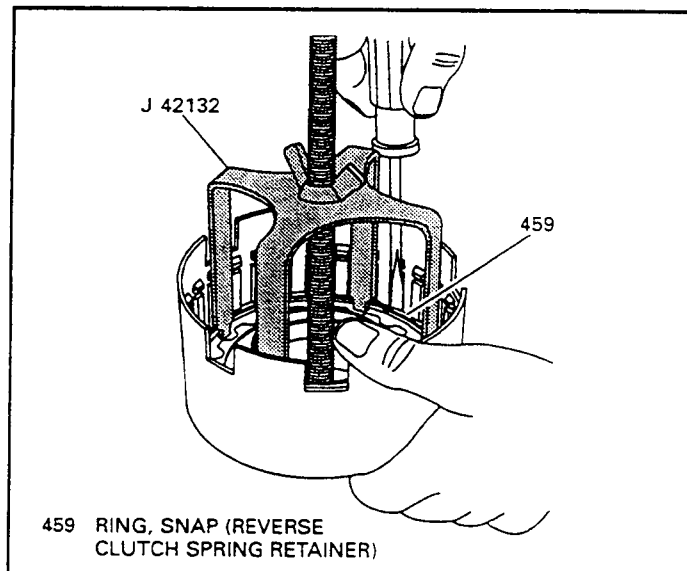

Figure 145
8. Install spring compressor tool and compress the return spring as shown in Figure 145.
9. Install the reverse input clutch return spring snap ring into groove using a screwdriver as shown in Figure 145.